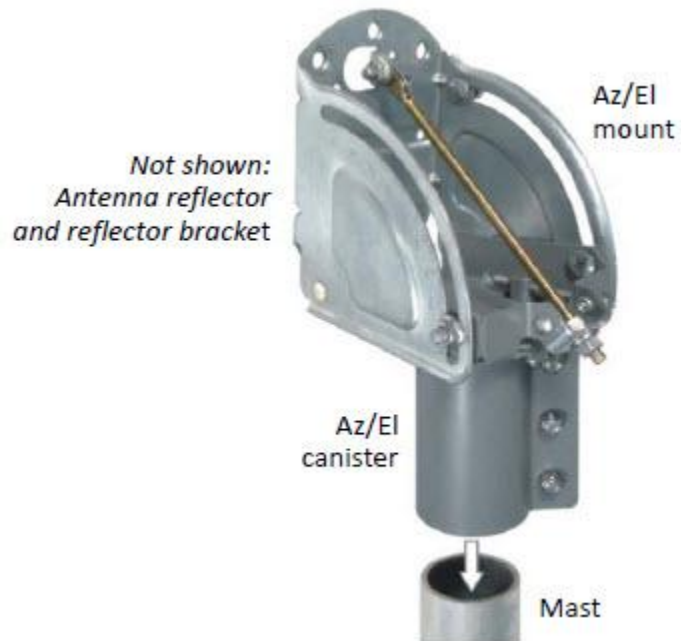

Figure 24: Installing the Az/EI mount assembly
2. Slide the Az/EI mount assembly canister downward onto the mast as shown in Figure 24.